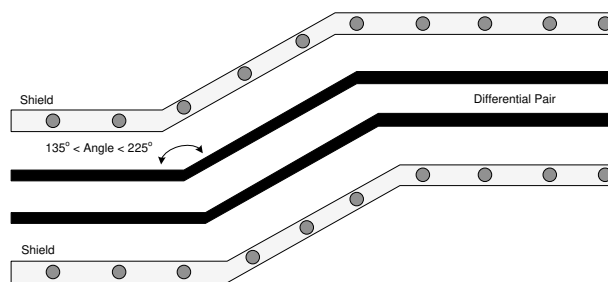

Figure 10-12. V-by-One Routing Example
- Ensure that the bend angles associated with the differential signal pairs are between 135° and 225° (See Figure 10-12).